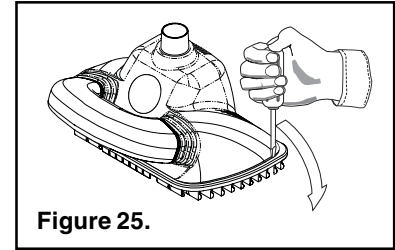

Figure 25.
1. With a screwdriver, carefully work the rubber vacuum pad down over the lip of the Outer Housing, (see Figure 25).